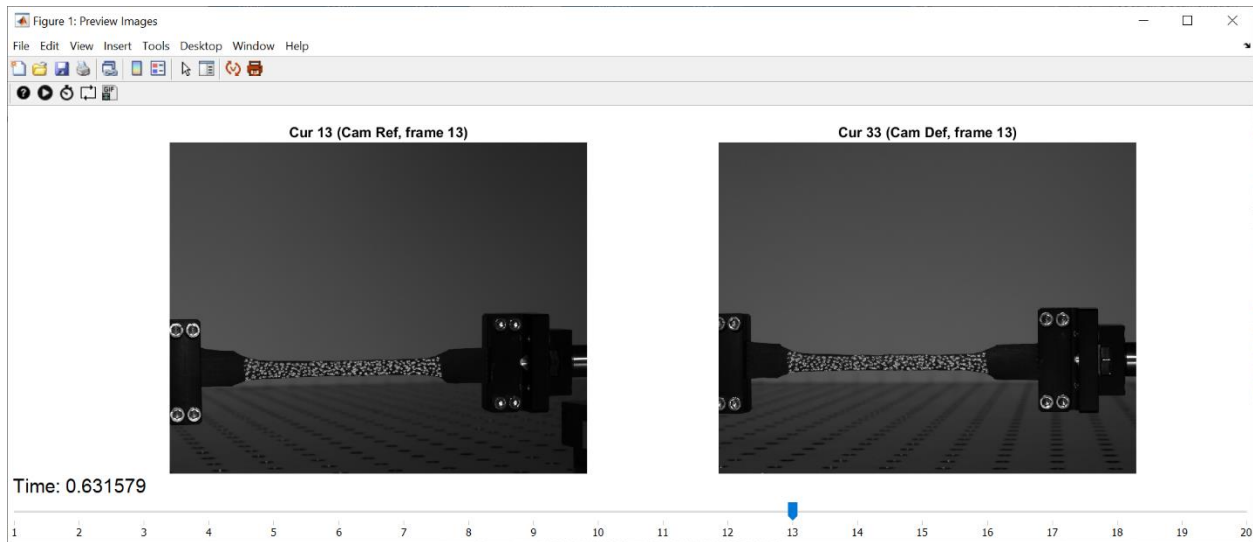

Figure 5. Animated figure displaying all the images from both cameras.
- A figure showing the image pairs from both cameras will appear (see Figure 5). Review the image sets by clicking on the play button, or by scrolling the bottom bar. This figure can help you determine the region of